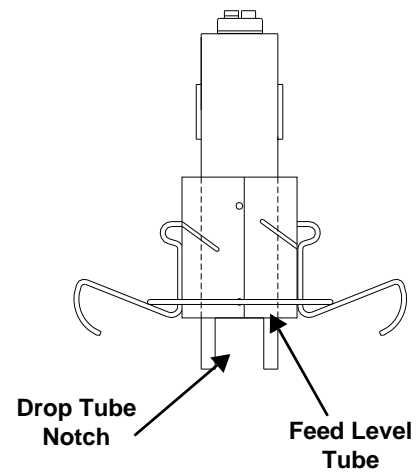

Figure 12. Feed Level Tube Up Position
- The bottom of the feed level tube should be level with the top edge notched in the drop tube, see **Figure 12**.
1. Use the feed pan closest to the actuator winch. Raise the feed level tube until it is level with the top edge notched in the drop tube, see **Figure 12**.